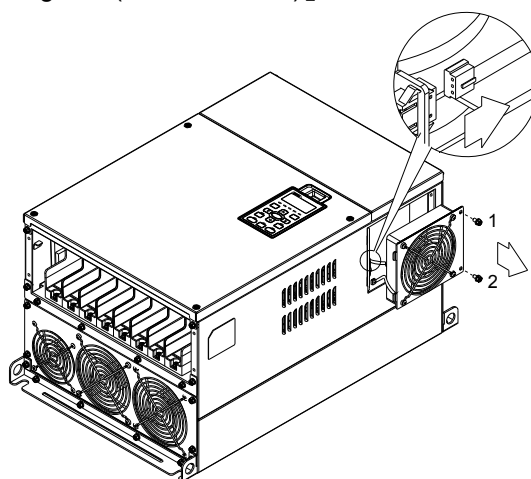

Figure 4
1. Loosen screw 1~2 (figure 4) and disconnect fan power and pull out the fan. (As shown in the enlarged picture 3) Screw1~2 『Torque: 24~26kgf-cm (20.8~22.6lb-in)』